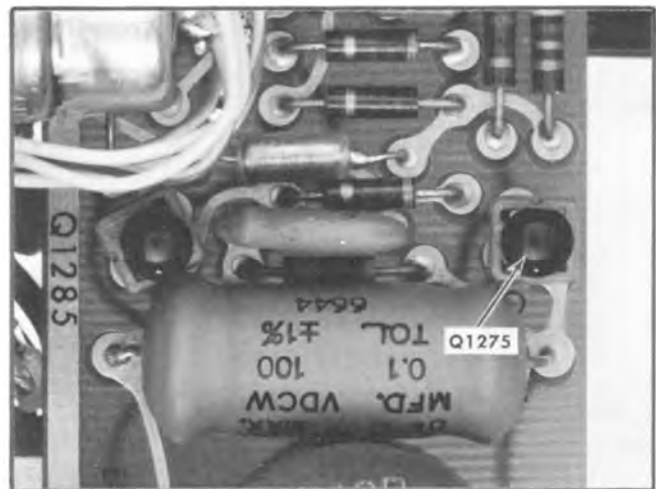

Fig. 6-5. Location of Q1275 (Calibrator circuit board).
2. Adjust +12-Volt Power Supply ❶
- b. Remove Q1275 (behind swing-out side panel; see Fig. 6-5) from the Calibrator board.